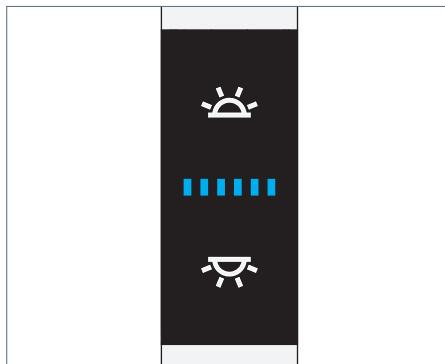

Fig. 10: Operating element.
- ▶ Press the upper switch, see Fig. 10.
- ▶ Press the upper switch, see Fig. 10
- ▶ Press the lower switch, see Fig. 10.
- ▶ Press the lower switch and keep it depressed, see Fig. 10.
- ▶ Press the upper switch and keep it depressed for at least one second, see Fig. 10.
- ▶ Press the upper switch and keep it depressed for at least one second or switch VTL off and on again, see Fig. 10.